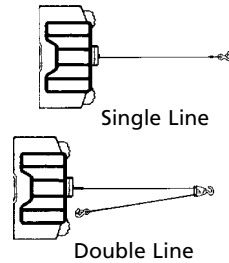

Figure 2
1. Maximum working load capacity is on the wire rope layer closest to the drum. DO NOT OVERLOAD. DO NOT ATTEMPT PROLONGED PULLS AT HEAVY LOADS. Overloads can damage the winch and/or the wire rope and create unsafe operating conditions. FOR LOADS OVER 1,000 POUNDS (454 kg), WE RECOMMEND THE USE OF THE OPTIONAL PULLEY BLOCK TO DOUBLE LINE THE WIRE ROPE Figure2 . This reduces the load on the winch and the strain on the wire rope by approximately 50%. Attach hook to load bearing part. **The vehicle engine should be running during winch operation.** If considerable winching is performed with the engine off, the battery may be too weak to restart the engine.